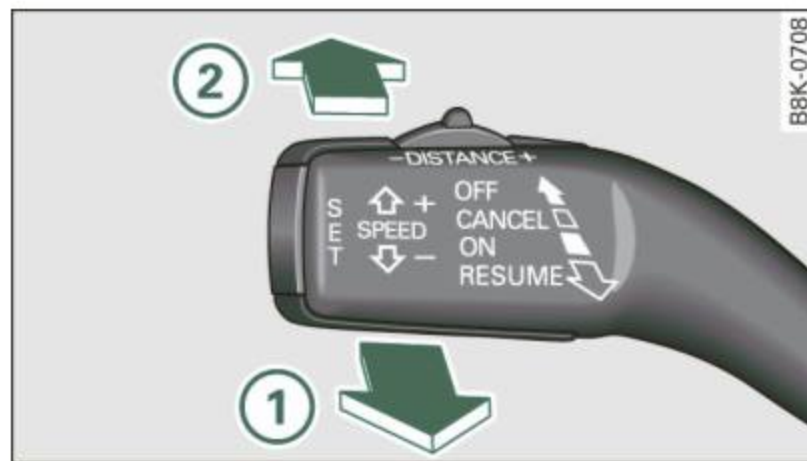

Fig. 117 Control lever: Turning adaptive cruise control off temporarily
- Press the lever in the direction of the arrow (2) ⇒ fig. 117.